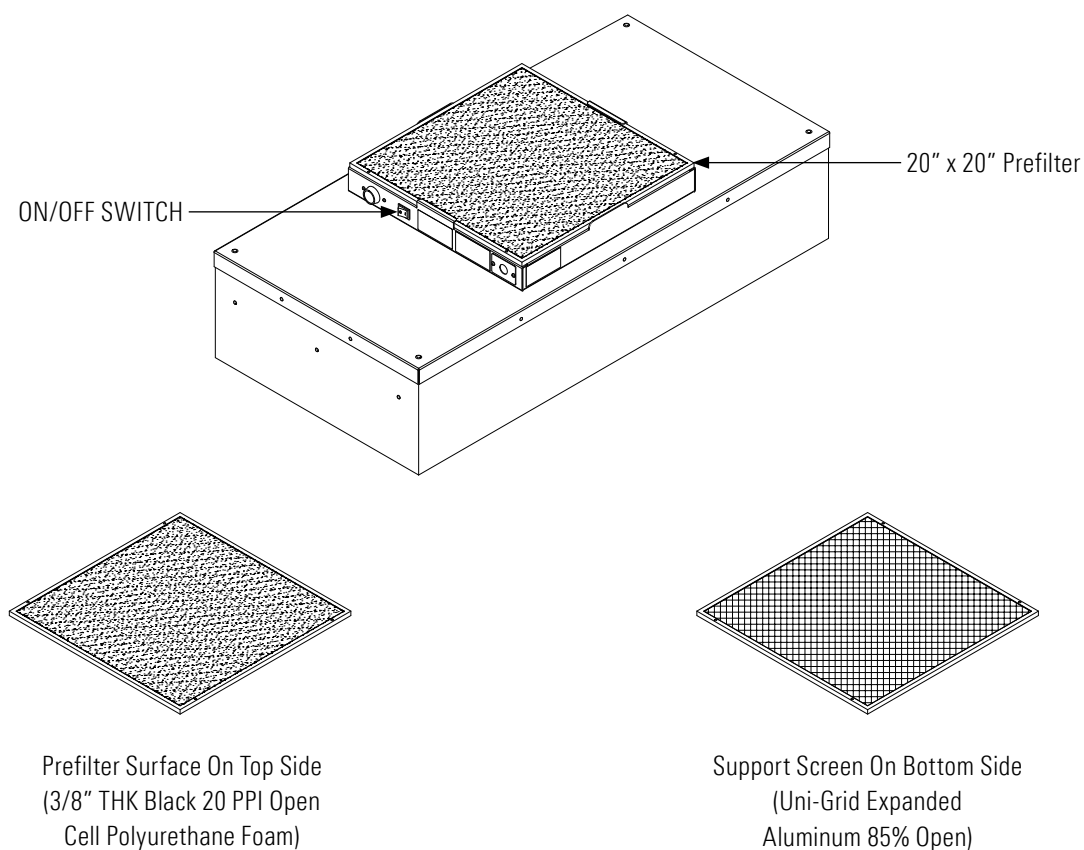

FIGURE 4: FOAM CLEANING PREFILTER
Step 3. Remove the prefilter from the snap-in frame. (See Figure 4, below.)